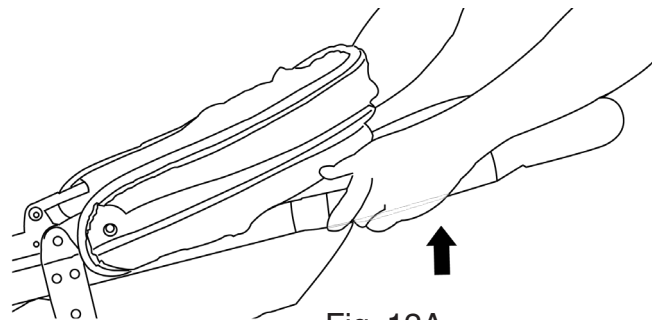

Fig. 12A
- Lift up on the stroller handle with both hands until the stroller frame is in a fully opened and locked open position. (Fig. 12A) The stroller is in a fully locked position when both side handle latches are in a fully locked position. Prior to placing your child into the stroller, test to make sure both latches are fully engaged and fully locked.